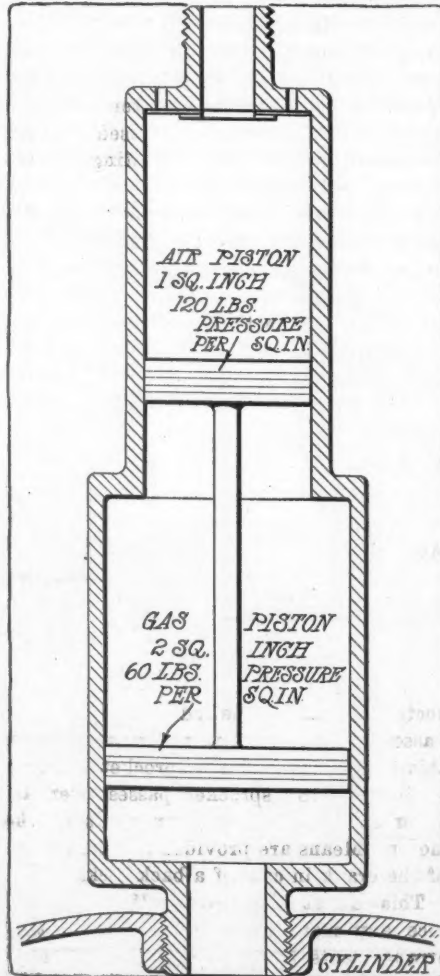

FIG. 1—PRINCIPLES OF AIR PUMP SHOWING INCREASE OF PRESSURE
2.—The maximum air pressure usually carried is 150 pounds per square inch. If necessary a pressure higher than that of the normal cylinder compression can be had in the storage tank by making the cylinder of the air compressor smaller in diameter than the cylinder upon which the working gas acts. For the pressure in the two cylinders will be inversely proportional to their cross-sectional areas, but the quantity stored up will be directly proportional to their areas. To explain, suppose the gas piston, that is, the piston of the pump which is in connection with the engine cylinder is 2 square inches in area and the upper piston which compresses the air is 1 square inch in area and that the compression pressure in the motor cylinder is 60 pounds per square inch. There is then 60 pounds pressure acting on each square inch of the gas piston or a total of 120 pounds. Now since the air piston is rigidly connected to the gas piston, the former will have to pass on a pressure of 120 pounds, through its 1 square inch of surface. That is it will deliver a pressure of 120 pounds per square inch. The sketch, Fig. 1, illustrates the general principle.